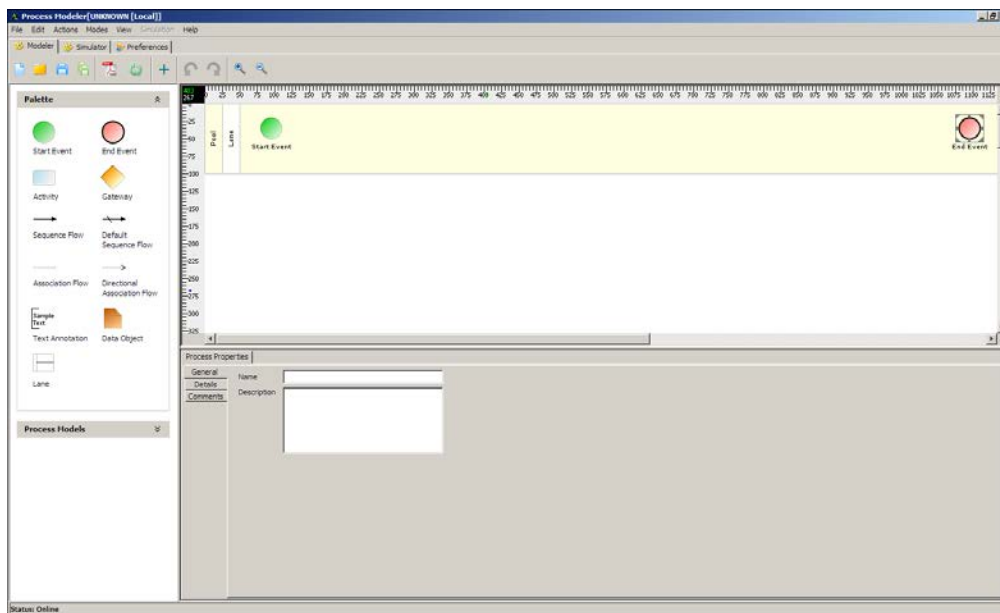

Figure 6: Process Modeler
5. Click **Process Modeler** button. The **Process Modeler** applet is displayed (see Figure 6).